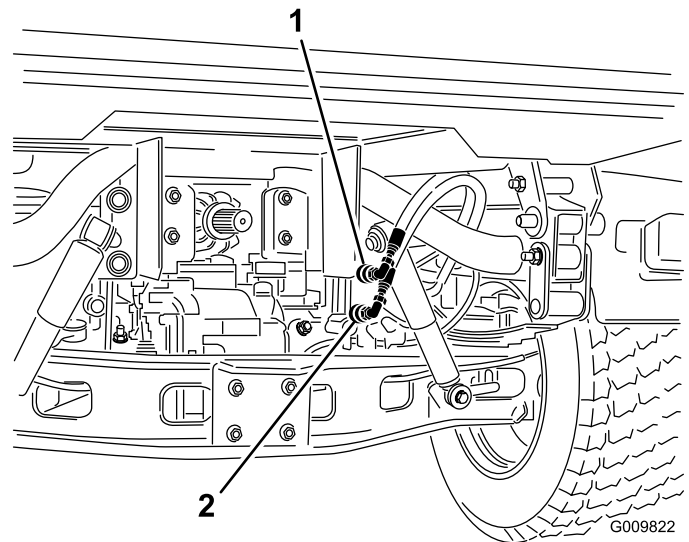

Figure 71
2. On both vehicles, disconnect the two quick coupler hoses from the hoses secured to the coupler bracket (Figure 71).